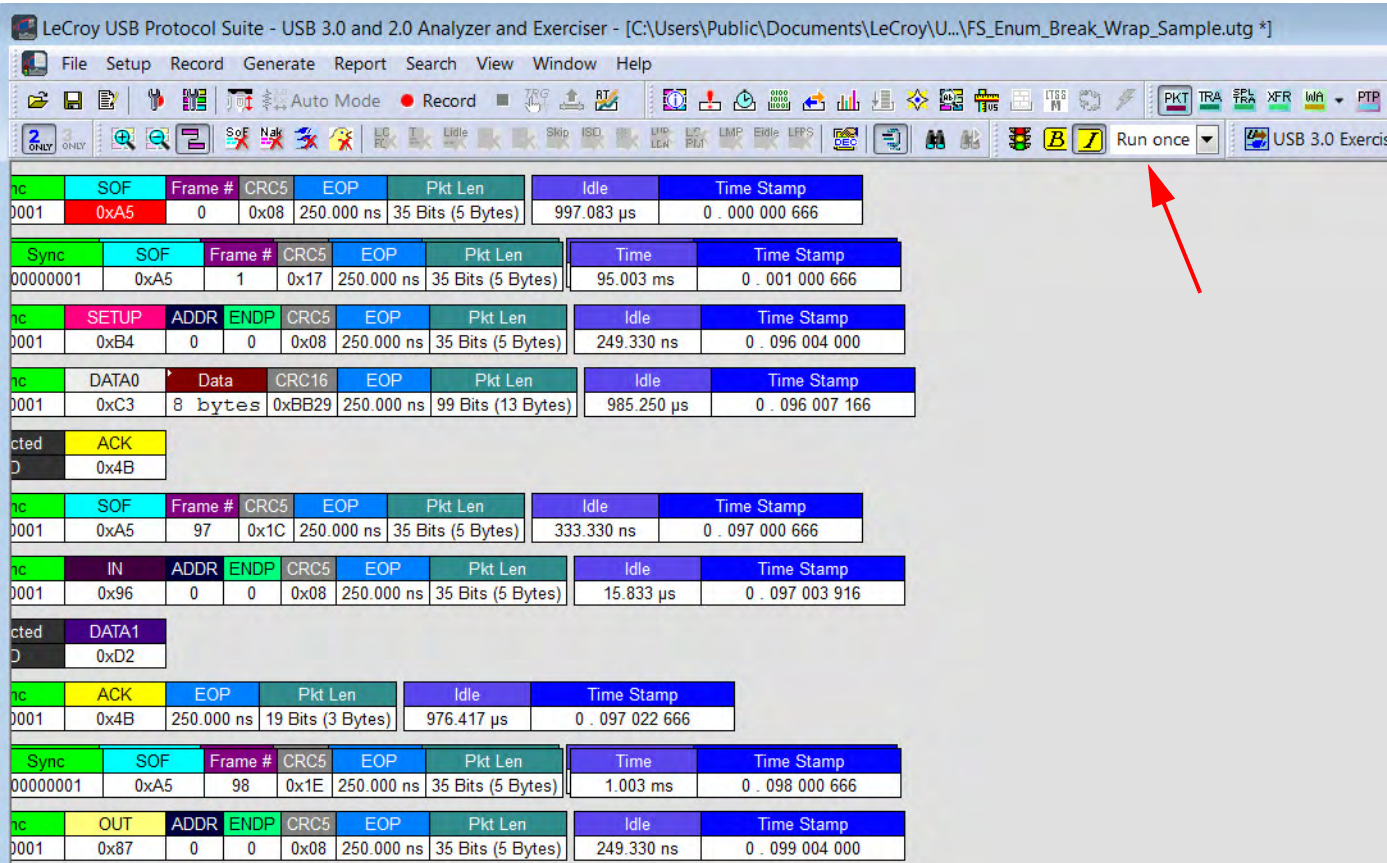

Figure 11.17: Traffic Generation File
4. Click **Open**. The file opens (see Figure 11.17 on page 451.)